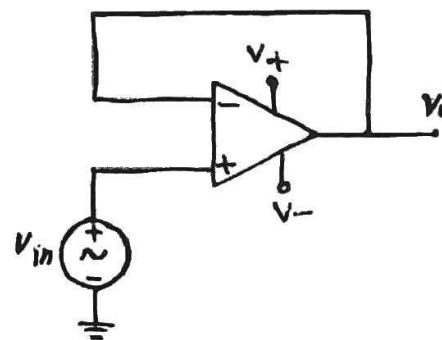

Figure- 3
3. a. Construct the circuit shown at Figure- 3.